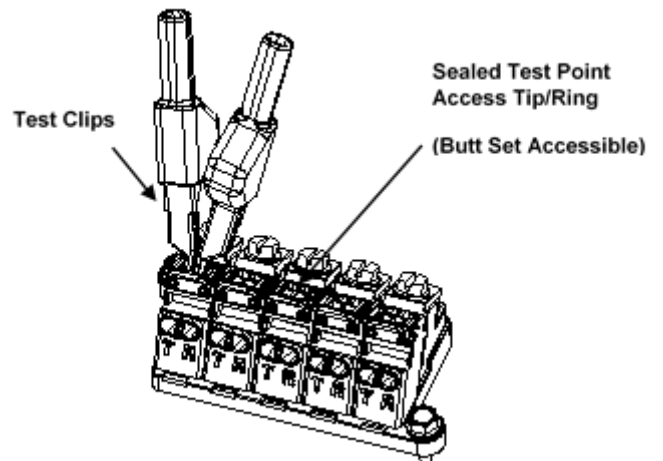

Figure 6
1. With Driver in the fully closed position, insert test clips into tip/ring test port access holes located at top of driver (Figure 6).